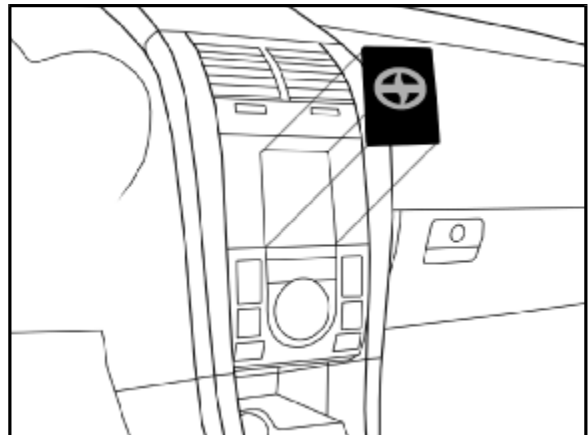

Fig. J1
A. Align part uniformly to edge of factory components. Edge of appliqué should be flush to edge of factory component, ±1.0mm. (Fig. J1).